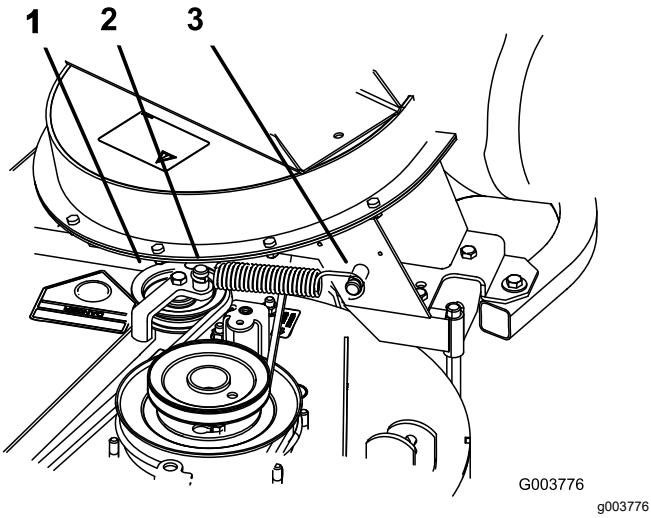

Figure 43
8. Install the spring as shown in Figure 43.